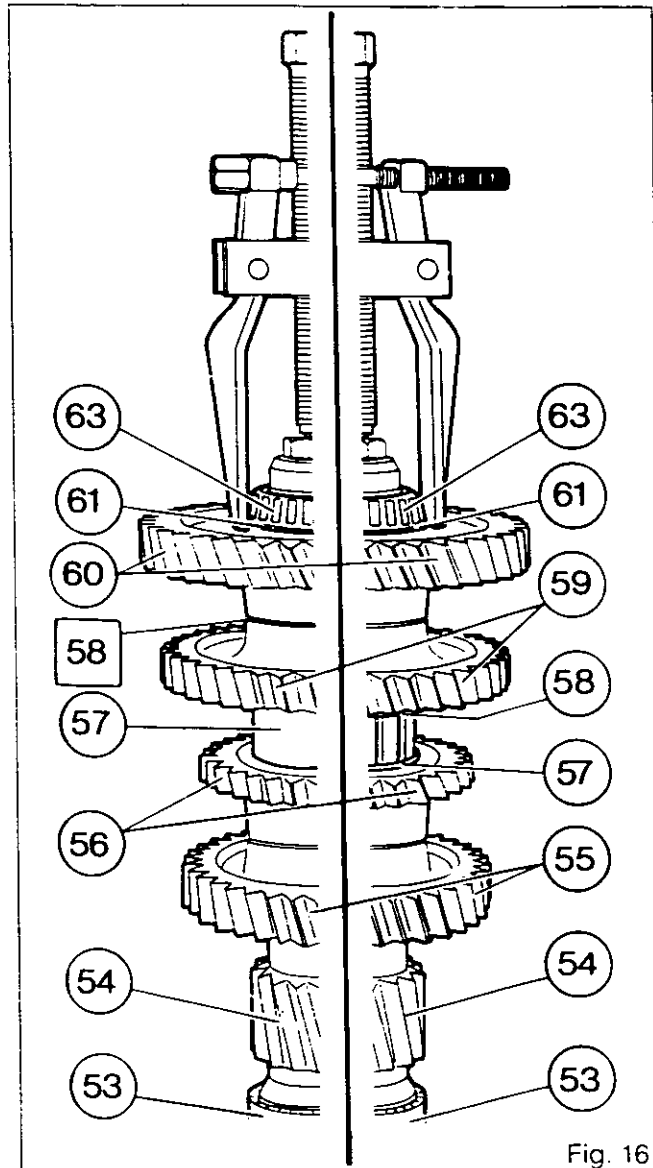
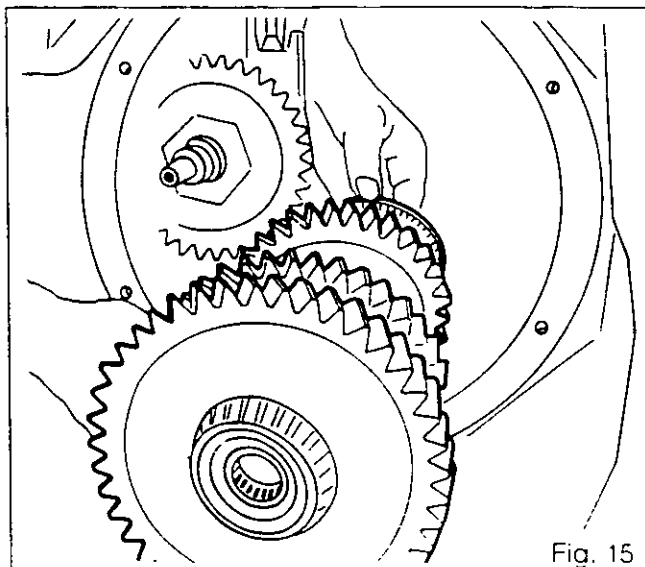
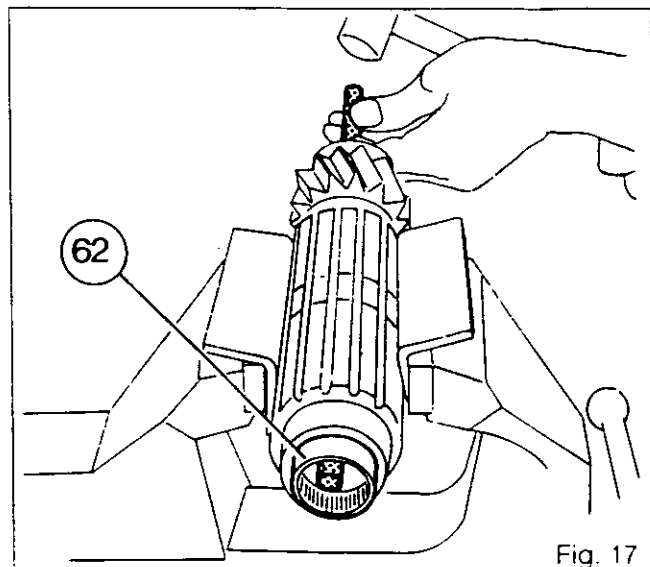

Fig. 16
Fig. 15
Fig. 17
- 20. Withdraw the layshaft complete (Fig.15).
- 21. Remove the washer (50). See page 32.
- 23. Remove the cup (52).
**Disassembly of shaft (54) (Fig.16). A new shaft fitting was introduced from serial number P345012 (version b). Tractors prior to this number are fitted with version a.**
- 24. Withdraw the taper roller bearings (53) and (63).
- 25. Remove the circlip (61).
- 26. a) Remove 1st gear (60) and 2nd gear (59).
b) Remove 1st gear (60), the shims [58] and 2nd gear (59).
- 27. a) Remove circlips (58) and (57) (Fig.16).
b) Remove spacer (57)
- 28. Remove 4th gear (56) (4 x 2 gearbox) and 3rd gear (55) (4 x 2 gearbox)
- 29. Remove 3rd gear (56) (4 x 4 gearbox) and 4th gear (55) (4 x 4 gearbox).
- 30. Drift out the needle roller bearing (62) (Fig.17) and discard it.